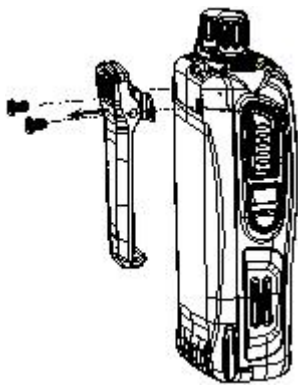

Figure 5
2. Remove the belt clip. See figure 5.